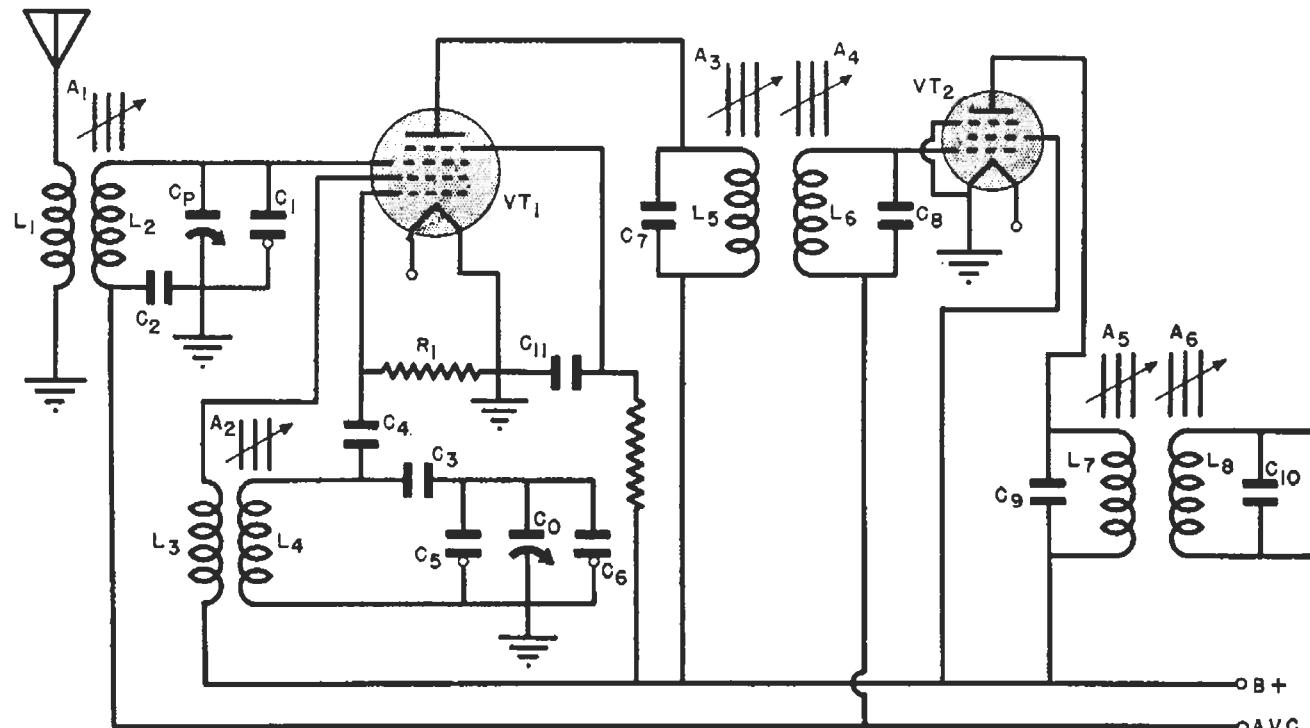

FIG. 9. Movable powdered-iron cores are used as the alignment adjusters here.
A number of receivers, such as the battery receiver of Fig. 9, use powdered iron adjustable cores in the coils to give alignment.
9. Why is rocking unnecessary for the circuit shown in Fig. 9? *The preselector has a low-frequency adjustment*